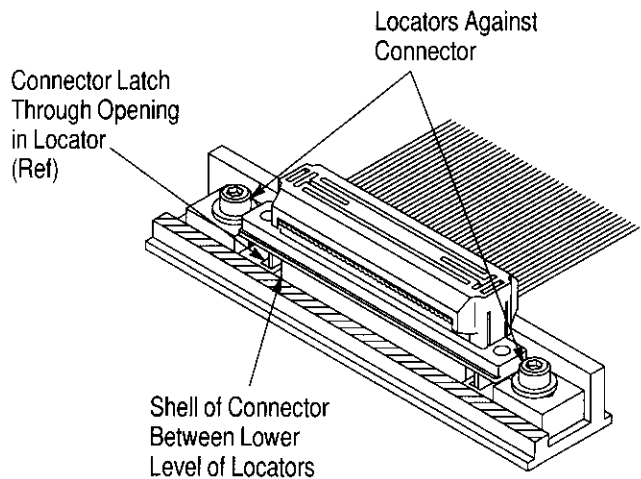

Figure 3
2. Place the connector between the locators and slide the locators against the connector; then secure the locators by fully tightening the socket head cap screws. Make sure that the front metal shell of the connector fits securely between the lower level of the locator, as shown in Figure 3.